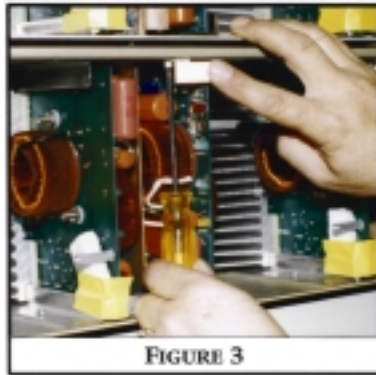

FIGURE 3
- ❑ Install all power amplifier inhibit switch Tabs (See **Figure 3**). Do not seat Tabs against Red switches at this time. Make certain that transmitter main power supply breaker is in the **OFF** position.